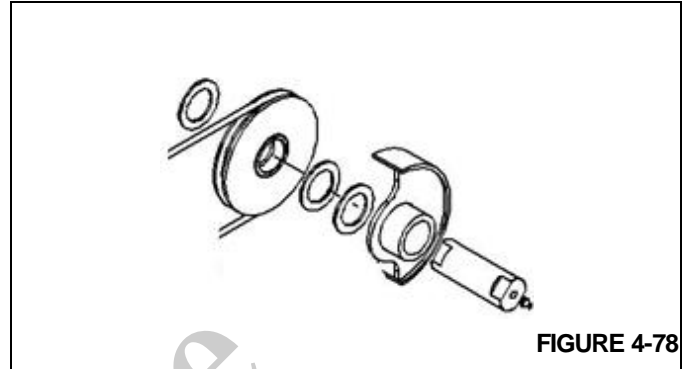
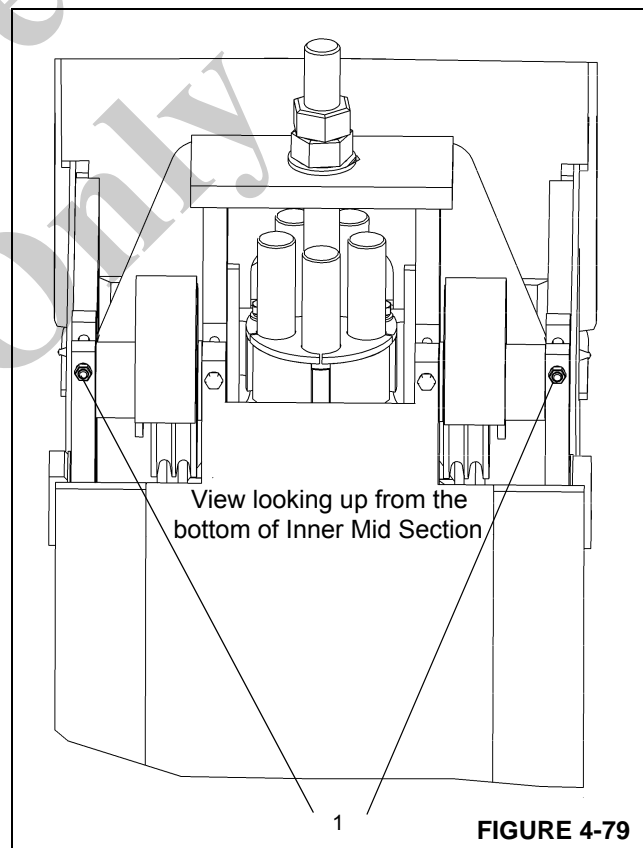

FIGURE 4-78
FIGURE 4-79
30. Assemble the mid retract sheave assembly as shown in Figure 4-78 and Figure 4-79. Note that the pin has one thrust washer to the inside of the boom and two thrust washers to the outside of the boom.
31. Reeve the mid retract cables on the left and right mid retract cable sheave assemblies and install as shown in Figure 4-78.
32. Install retainer capscrew, washer and nut to lock sheave assembly pins in place (Figure 4-79, 1).